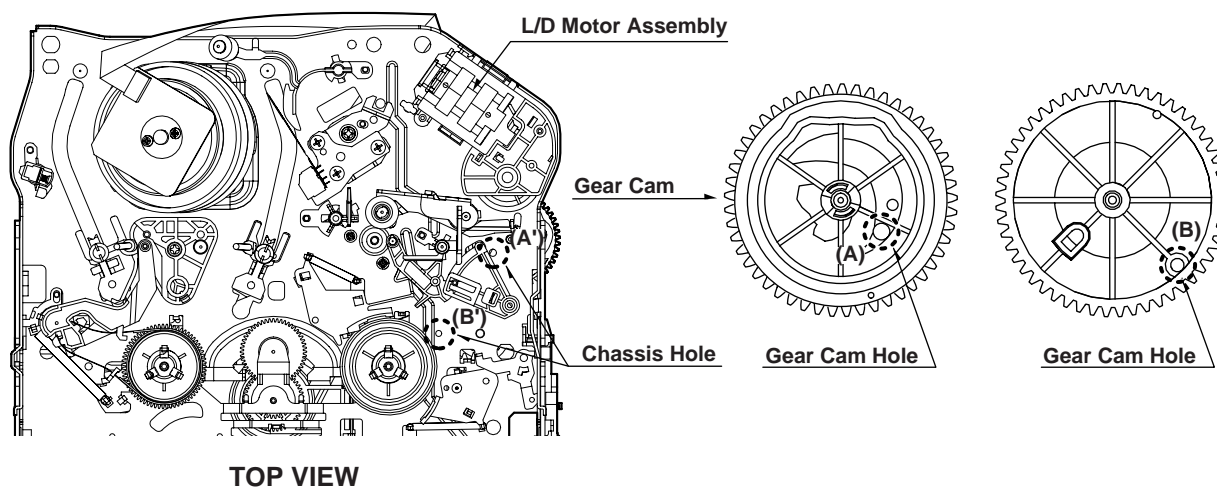

Fig. C-2
- 2) Remove the Top Cover and Plate Assembly Top, visually check if the Gear Cam Hole is aligned with the Chassis Hole as below Fig. C-2.
- 3) IF not, rotate the Shaft of the Loading Motor to either Clockwise or Counterclockwise until the Alignment is as below Fig. C-2.